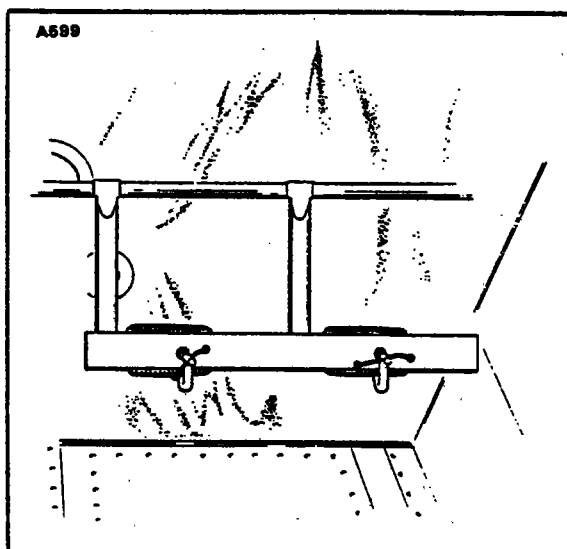

Figure 7-3. Clamping Rudder Pedals in Neutral Position
- g. Clamp the rudder pedals to align in a lateral position. (Refer to Figure 7-3.)